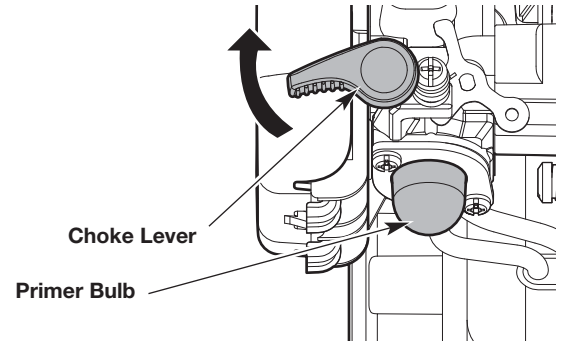

Fig. 8
3. Slowly press and release the primer bulb **10 times** (Fig. 8). If fuel cannot be seen in the primer bulb, press and release the primer bulb until fuel is visible.
4. **DO NOT** squeeze the throttle control. Flip the choke lever clockwise until it clicks (Fig. 8).
4. **DO NOT** squeeze the throttle control. Flip the choke lever clockwise until it clicks into the **START** position (Fig. 8).